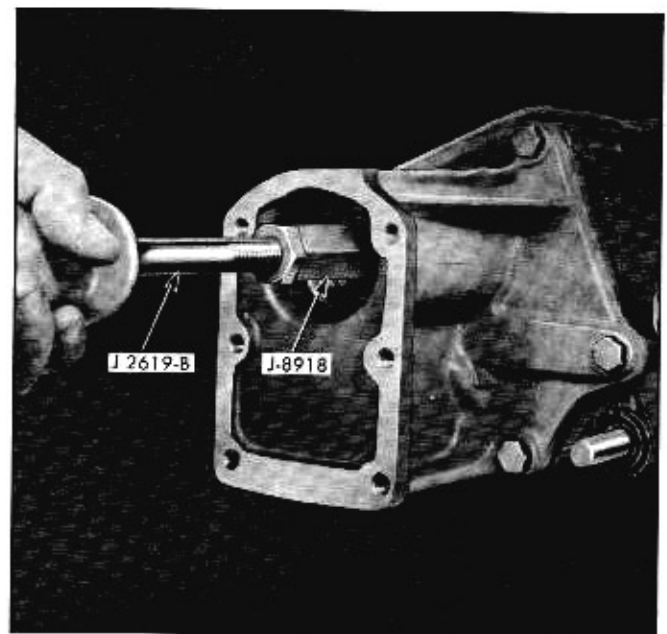

Fig. 7-18 Removing Bearings and Spacer
4. With slide hammer (Fig. 7-18) remove bearings and spacer.